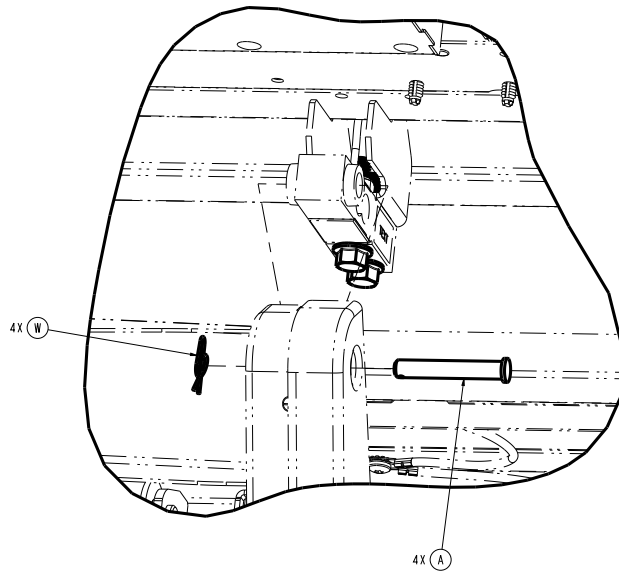

Figure 30 – Replacing the load cell
8. Using needle nose pliers, remove the rue clip (W) from the clevis pin (A) that secures the load cell to the lift mechanism (Figure 30). Save the rue clip and clevis pin.
10. Using needle nose pliers, remove the rue clip (W) from the clevis pin (A) that secures the load cell to the lift mechanism (Figure 30). Save the rue clip and clevis pin.